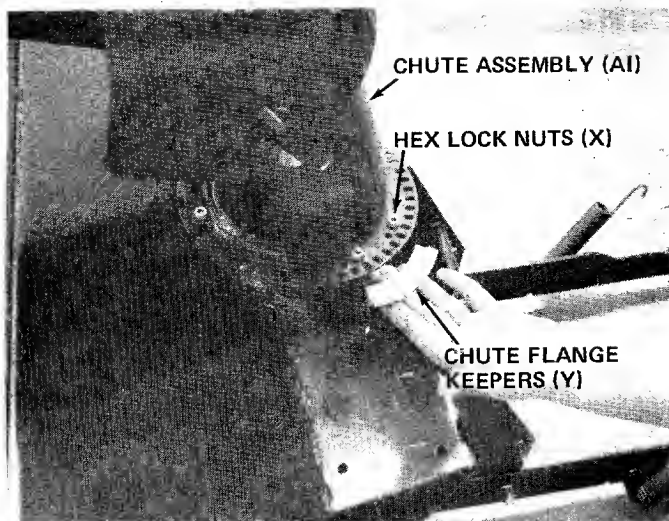

FIGURE 7
Before setting the chute assembly on the spiral housing assembly, grease the housing for ease of operation. See figure 7.
7. Assemble the chute assembly (AI) to the housing using three chute flange keepers (Y) and six hex lock nuts (X). See figure 7.